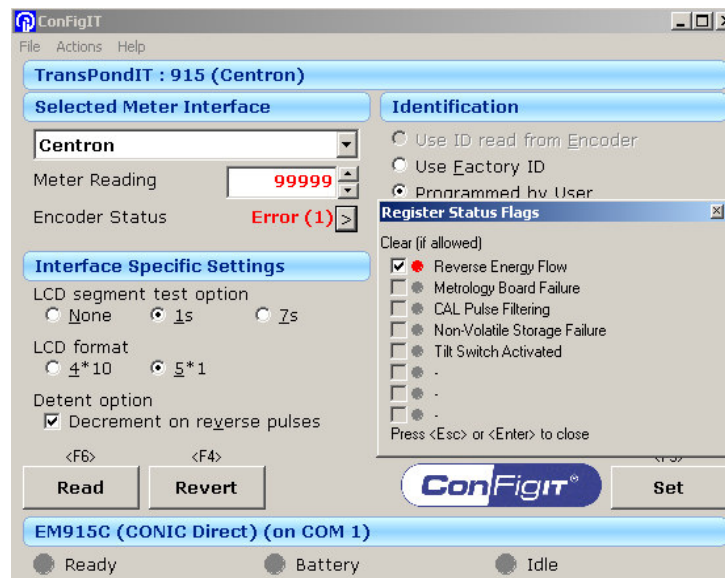

Figure 21: Select 'Reverse Energy Flow' status for clearing
- The appropriate status flags are selected for clearing (see Figure 21).
- 3) Click in the white box(s), tick mark(s) should appear (see Figure 21).